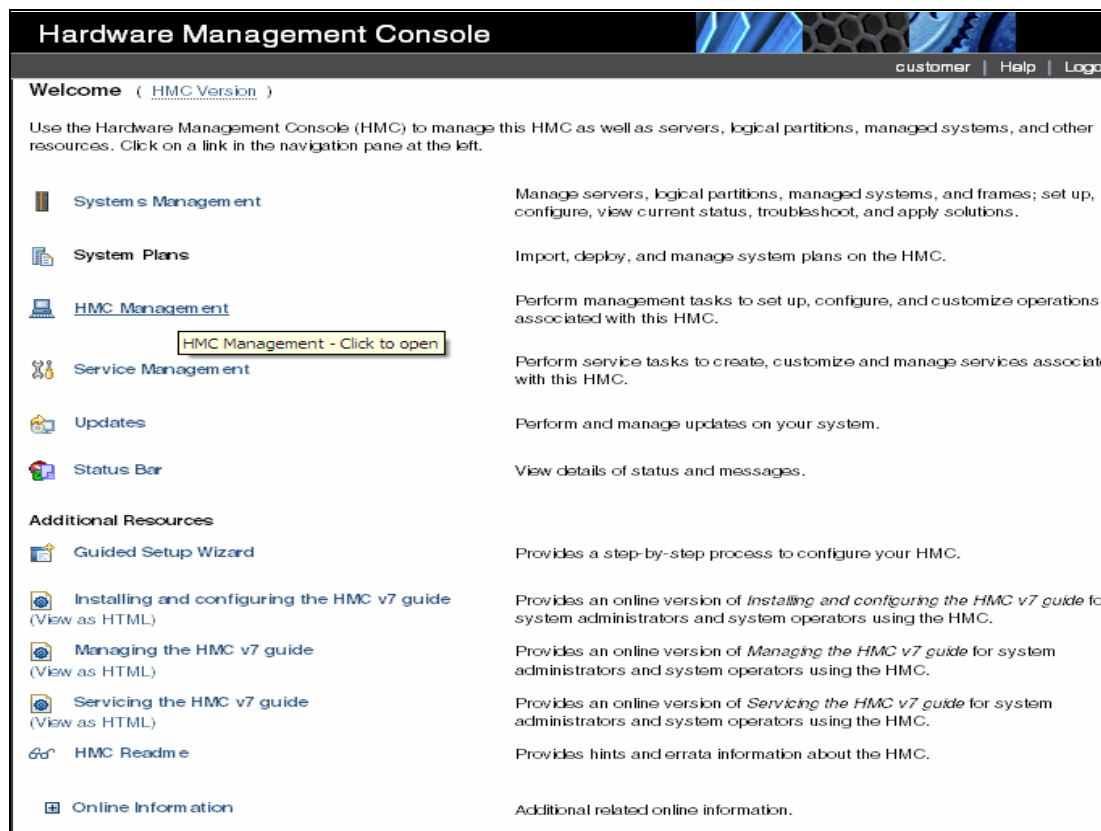

Figure 9-6 WebUI welcome window
2. In the HMC welcome window, select **HMC Management** as shown in Figure 9-6.